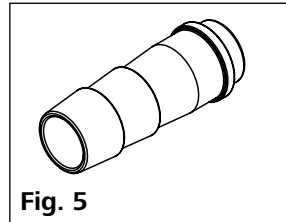

Fig. 5
- Hose olive DN 12 (2 pieces) see Fig. 5